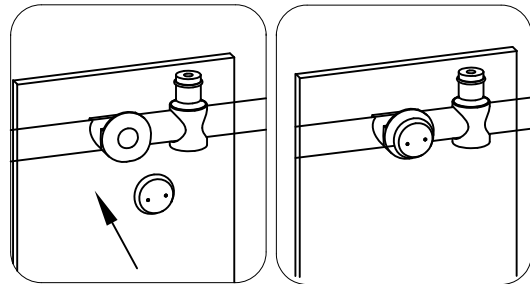

Fig. 18
18. Position the Small Fixed Glass (19) in place against shower wall. Secure the Small Fixed Glass (19) to Top Rail (2) as shown in Fig. 18.
See Fig.18 for details.